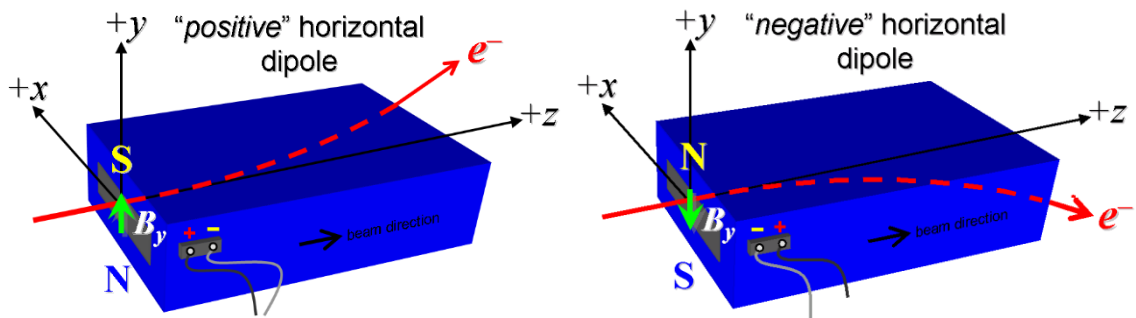

Figure 1. BCXH2 and BCXH3 are “positive” (left), while BCXH1 and BCXH4 are “negative” (right).
A beam direction arrow, with text “beam direction”, is to be applied to the top and/or tunnel aisle side of the magnet with a sticker supplied by LCLS-II (see Fig. 1 below).
- 3) Determine the main-coil connection polarity (with main supply outputting positive current) for these horizontal bends, which produces a “positive” field polarity for BCXH2 and BCXH3 (see **Fig. 1**, left side), but a “negative” field polarity for BCXH1 and BCXH4 (right side), as shown below:
Main coil polarity chosen from Fig. 1 is (“P” or “N”):	N
Trim-coil polarity chosen from Fig. 1 is (“P” or “N”):	N